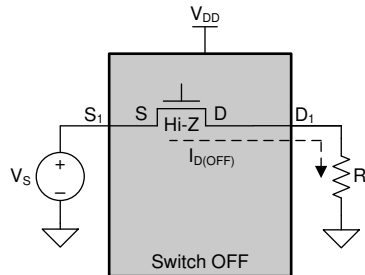

Figure 4-10. OFF Leakage Current
- **OFF Leakage Current:** Leakage current measured at the input port, with the corresponding channel output in the OFF state under worst-case input and output conditions (See Figure 4-10) . Leakage current is an important parameter, as it contributes to DC errors both when the switch is ON and when it is OFF.